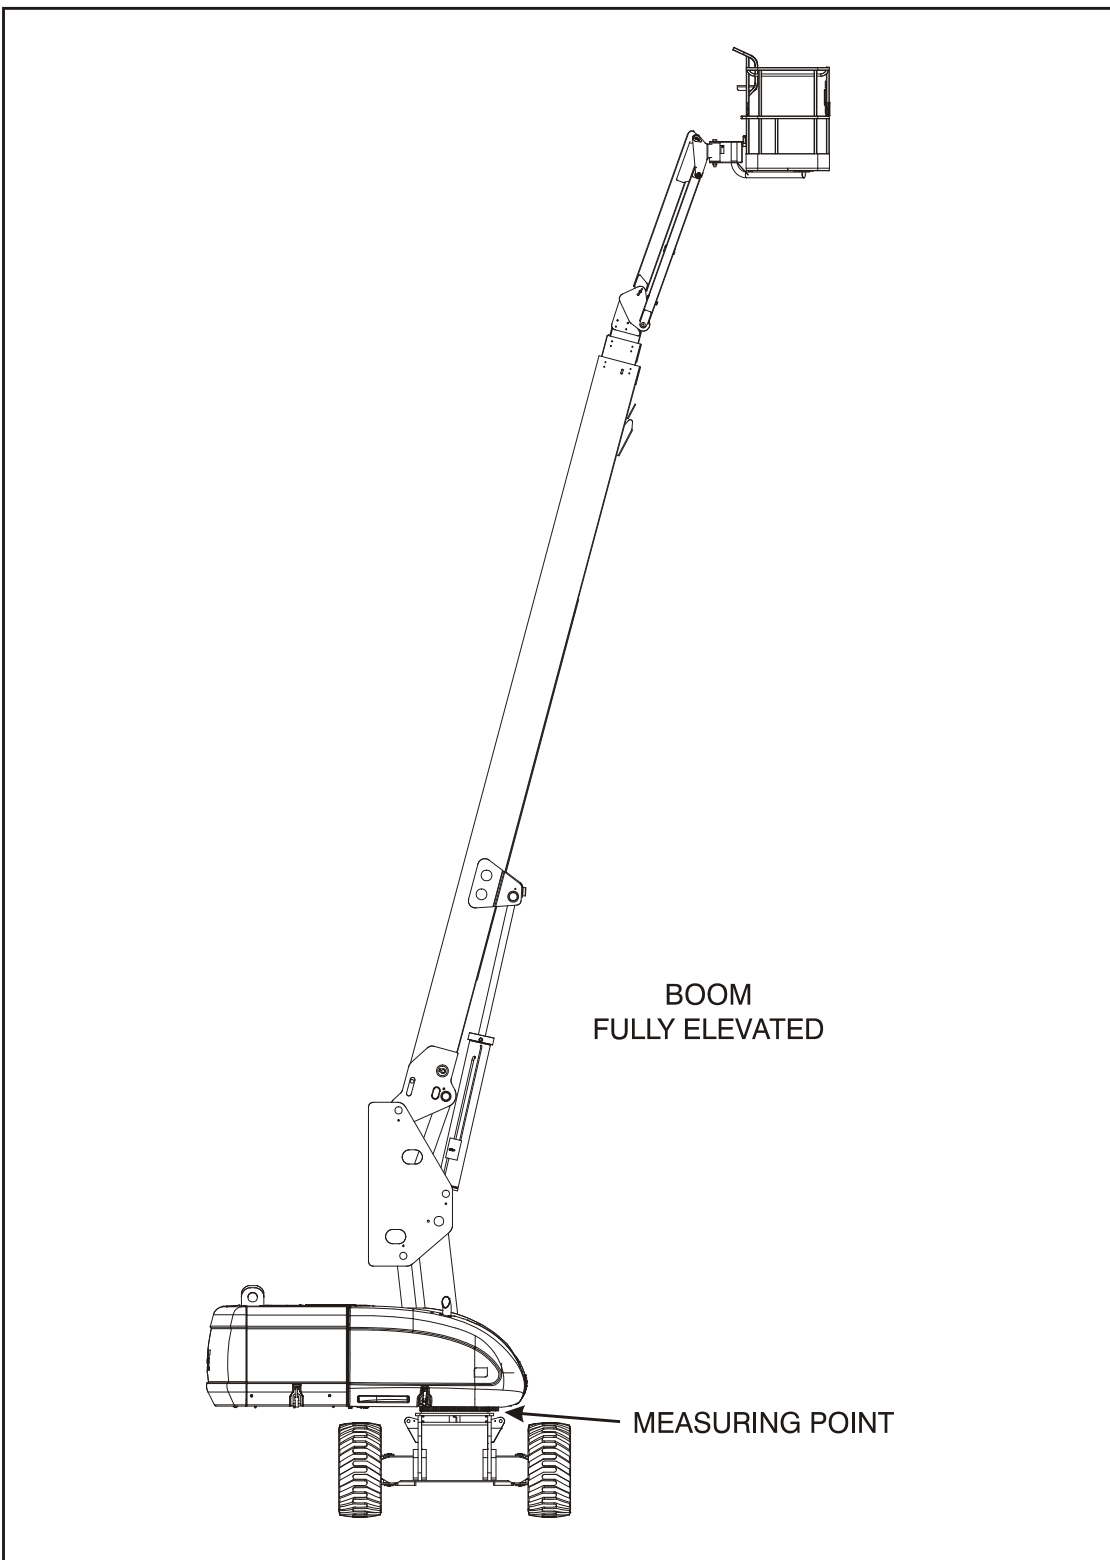
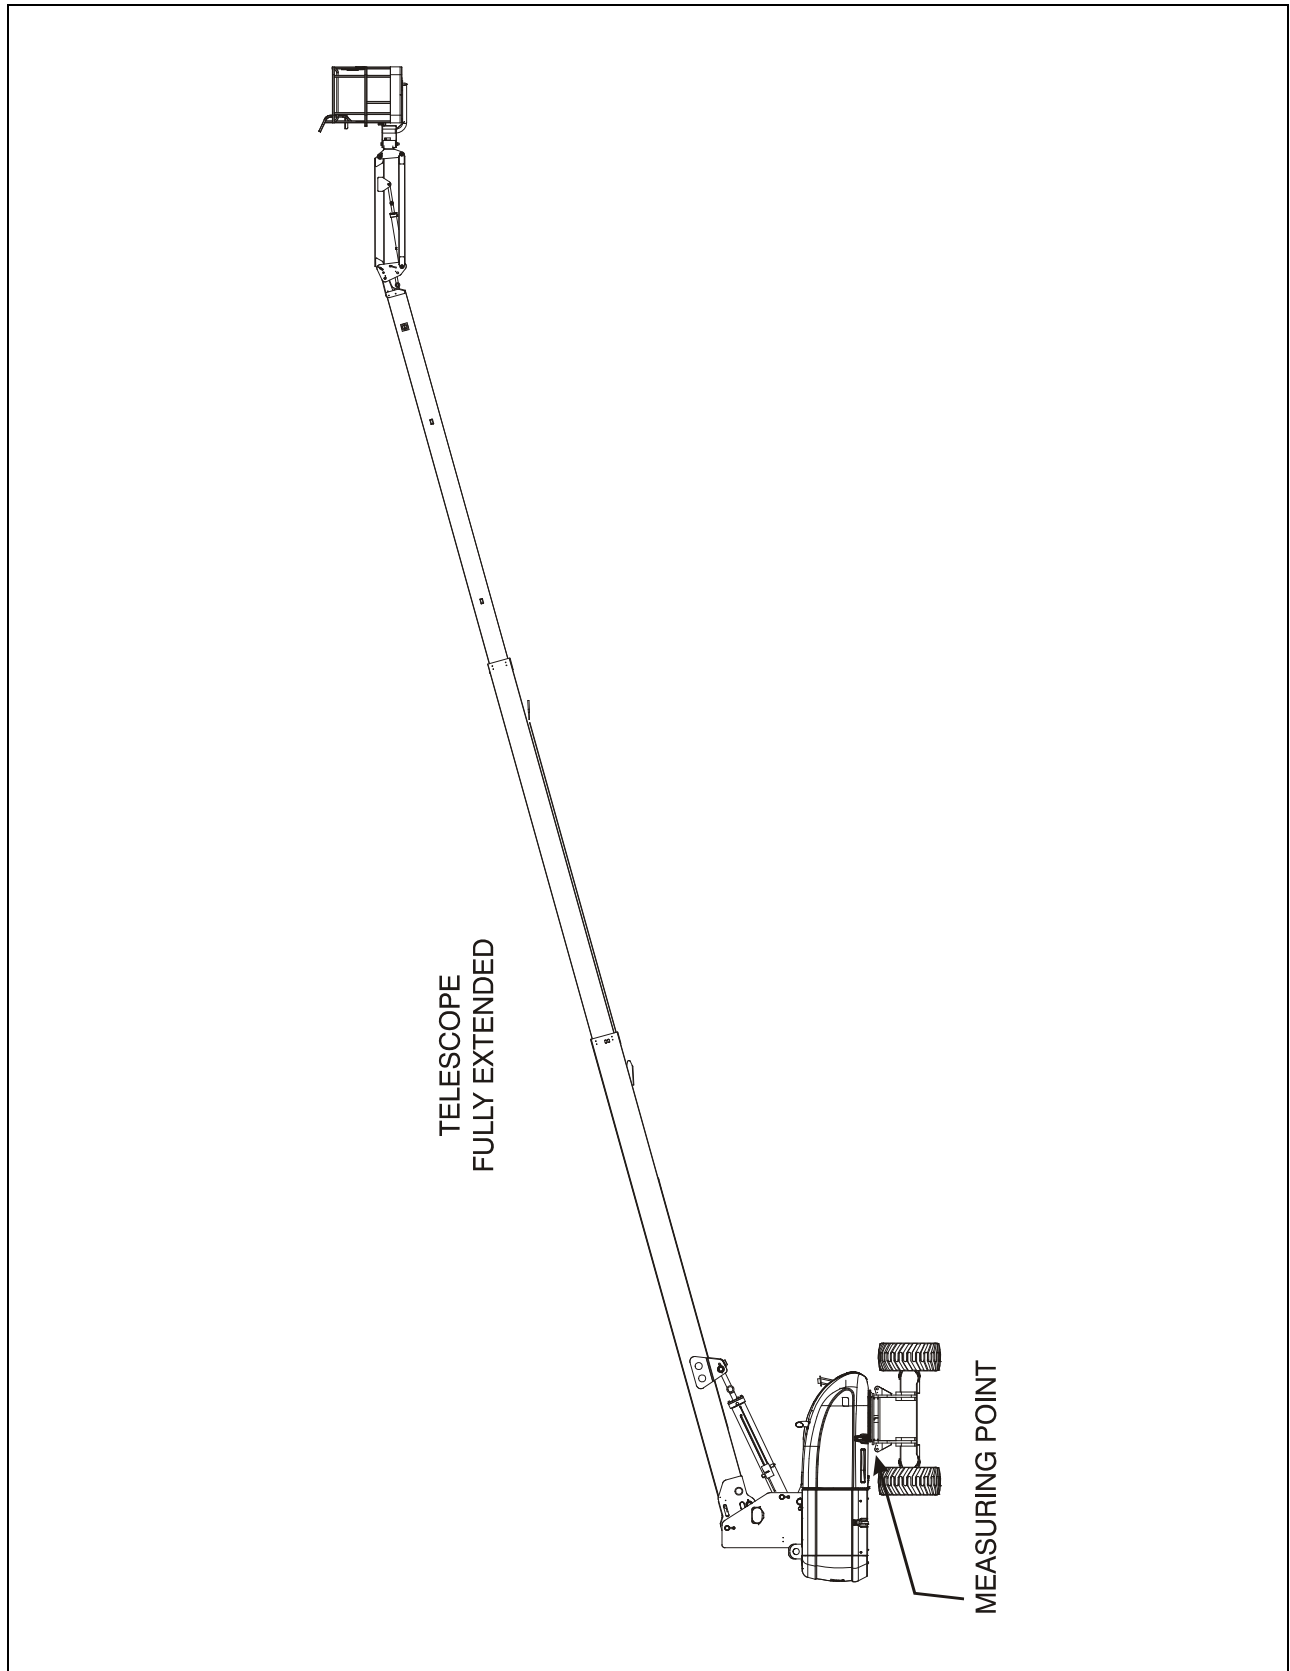
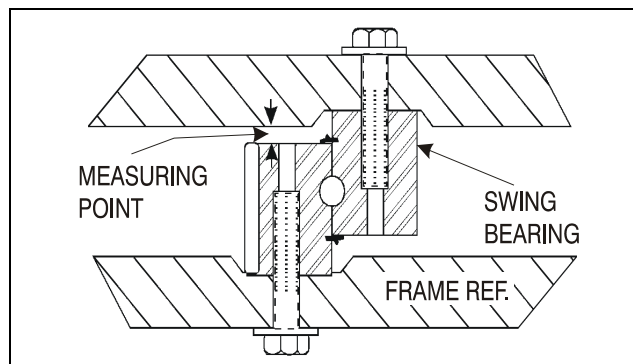

Figure 3-60. Swing Bearing Tolerance Boom Placement (Sheet 1 of 2)
Figure 3-61. Swing Bearing Tolerance Boom Placement (Sheet 2 of 2)
Figure 3-63. Swing Bearing Tolerance Measuring Point
- a. Elevate the fully extended main boom to horizontal. (See Figure 3-61.).
- b. At the position indicated on Figure 3-60., try to insert the 0.0015 in. feeler gauge between the bolt head and hardened washer at the arrow indicated position.
1. From the underside of the machine, at rear center, with the main boom fully elevated and fully retracted as shown in Figure 3-60., Swing Bearing Tolerance Boom Placement (Sheet 1 of 2), using a magnetic base dial indicator, measure and record the distance between the swing bearing and turntable. See Figure 3-63., Swing Bearing Tolerance Measuring Point.
2. At the same point, with the main boom at horizontal and fully extended as shown in Figure 3-61., Swing Bearing Tolerance Boom Placement (Sheet 2 of 2). Using a magnetic base dial indicator, measure and record the distance between the swing bearing and turntable. See Figure 3-63., Swing Bearing Tolerance Measuring Point.